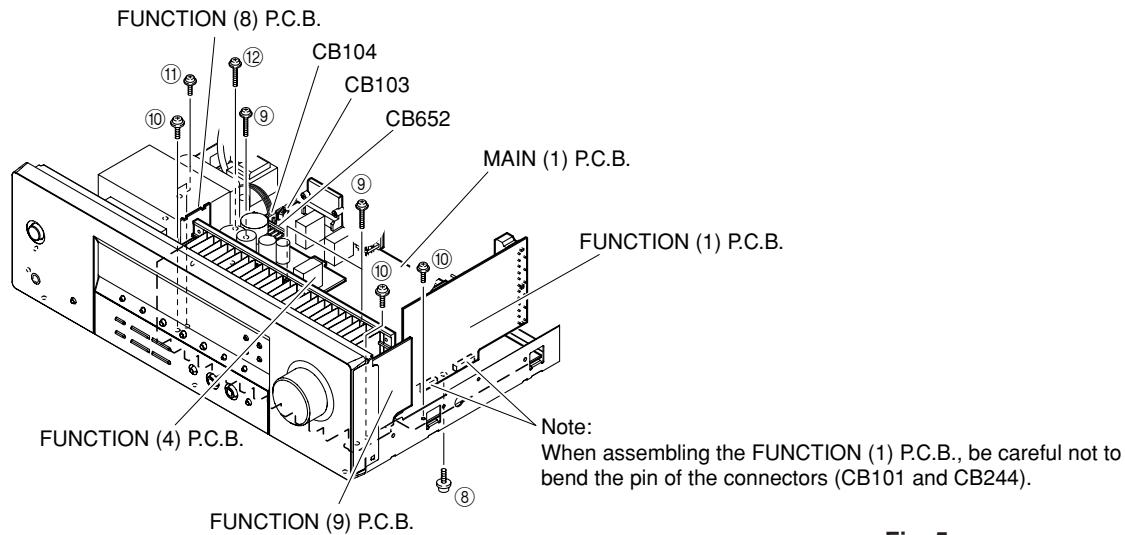

Fig. 5
5. Removal of MAIN (1), FUNCTION (1), FUNCTION (8) and FUNCTION (9) P.C.B.s
- a. Remove 1 screw (⑧). (Fig. 5)
- b. Remove FUNCTION (1) P.C.B. (Fig. 5)
- c. Remove CB103, CB104 and CB652. (Fig. 5)
- d. Remove 3 screws (⑨). (Fig. 5)
- e. Remove 4 screws (⑩). (Fig. 5)
- f. Remove MAIN (1), FUNCTION (4), FUNCTION (8) and FUNCTION (9) P.C.B.s. (Fig. 5)
- f. Remove 1 screw (⑪). (Fig. 5)
- g. Remove 1 screw (⑫). (Fig. 5)
- i. Be sure to connect the ground of MAIN (1) P.C.B. (G103, G104, G241) and FUNCTION (4) P.C.B. (G651) to the chassis with a jumper wire or the like.